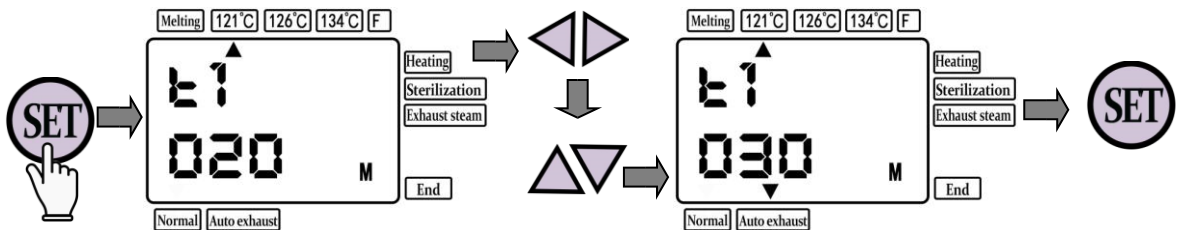

Fig. 12
② Set the sterilization time: Press the "Setting" key to the sterilization time setting interface (**Fig.12**). You can press the left and right keys to position the cursor, and then press the "Add" key to set. The value is only can be added but not reduced. After setting, please press the "Setting" key to save the modification.